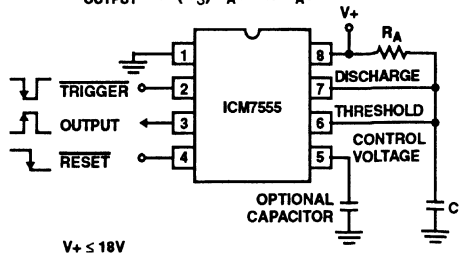

FIGURE 15. MONOSTABLE OPERATION
In this mode of operation, the timer functions as a one-shot, see Figure 15. Initially the external capacitor (C) is held discharged by a transistor inside the timer. Upon application of a negative TRIGGER pulse to pin 2, the internal flip-flop is set which releases the short circuit across the external capacitor and drives the OUTPUT high. The voltage across the capacitor now increases exponentially with a time constant $t = R_A C$. When the voltage across the capacitor equals $2/3 V_+$, the comparator resets the flip-flop, which in turn discharges the capacitor rapidly and also drives the OUTPUT to its low state. TRIGGER must return to a high state before the OUTPUT can return to a low state.